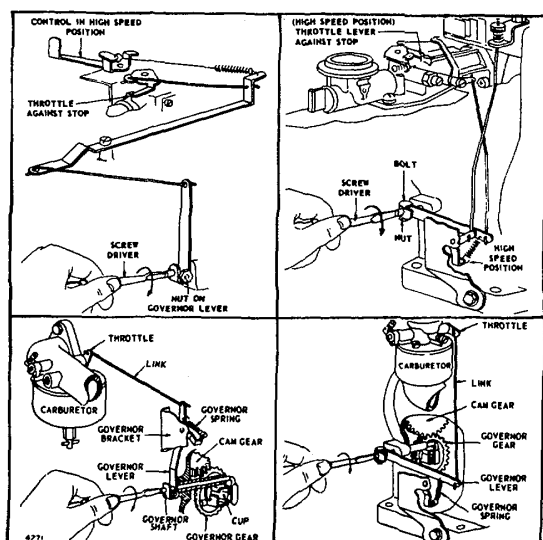

Fig. 20. Adjust Governor
Loosen screw holding governor lever to governor shaft. Place throttle in high speed position. While holding throttle in this position and with a screwdriver turn governor shaft clockwise as far as it will go. Tighten screw holding governor lever to governor shaft to 35-45 in. lbs. (.4-.52 mkg or 4.0-5.0 N•m) torque. See Fig. 20.
1. Set control lever to maximum speed position, with engine running. See Fig. 20.